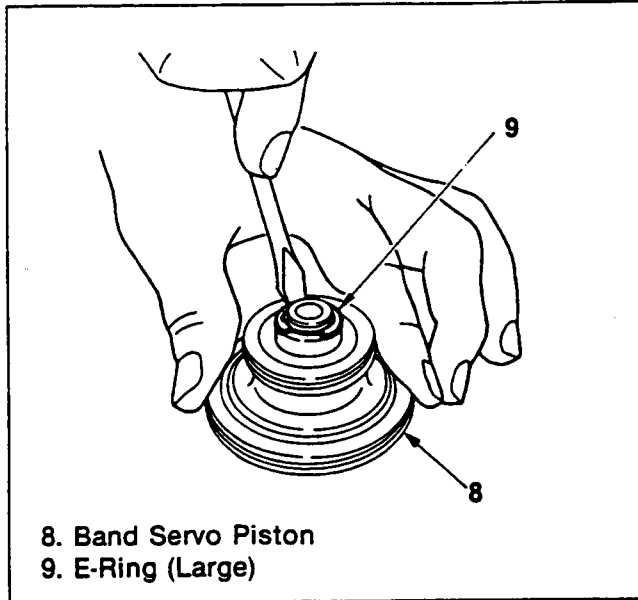

Figure 206. E-Ring Removal
4. Remove the E-ring from the band servo piston (figure 206).